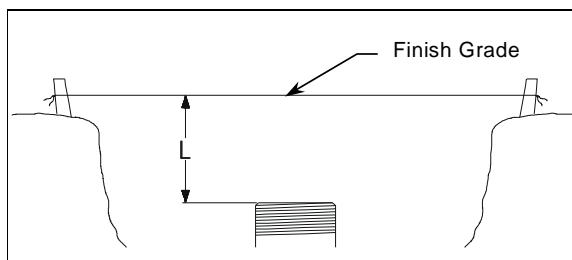

Figure 1
**Step 2:** (See Figure 1 & 2)